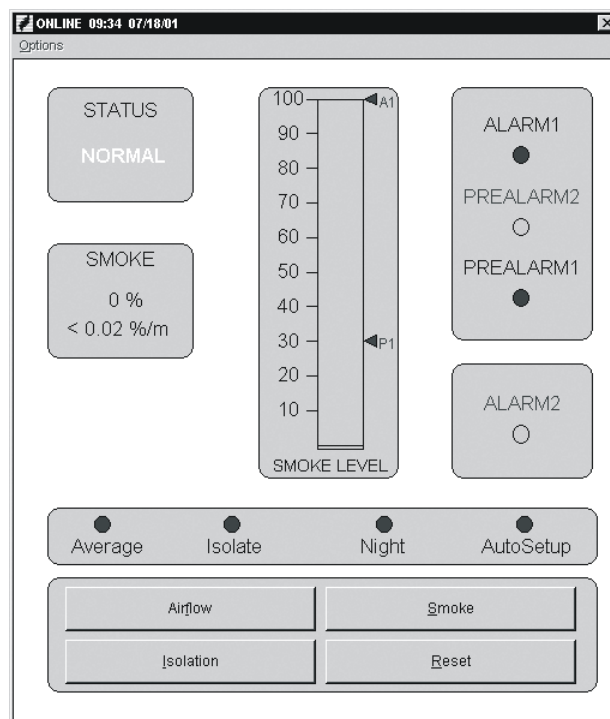
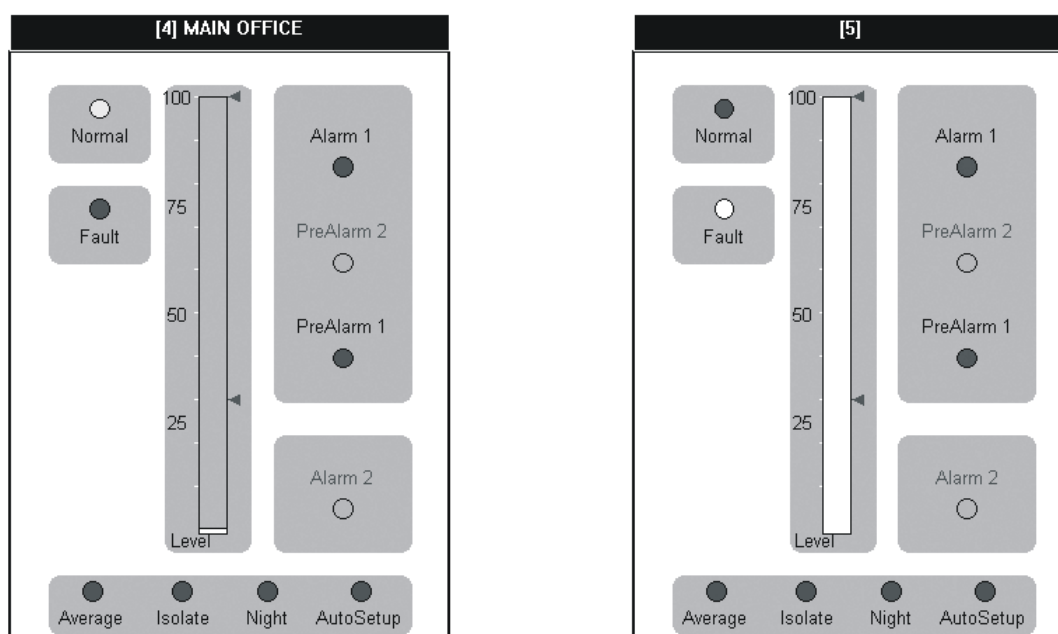
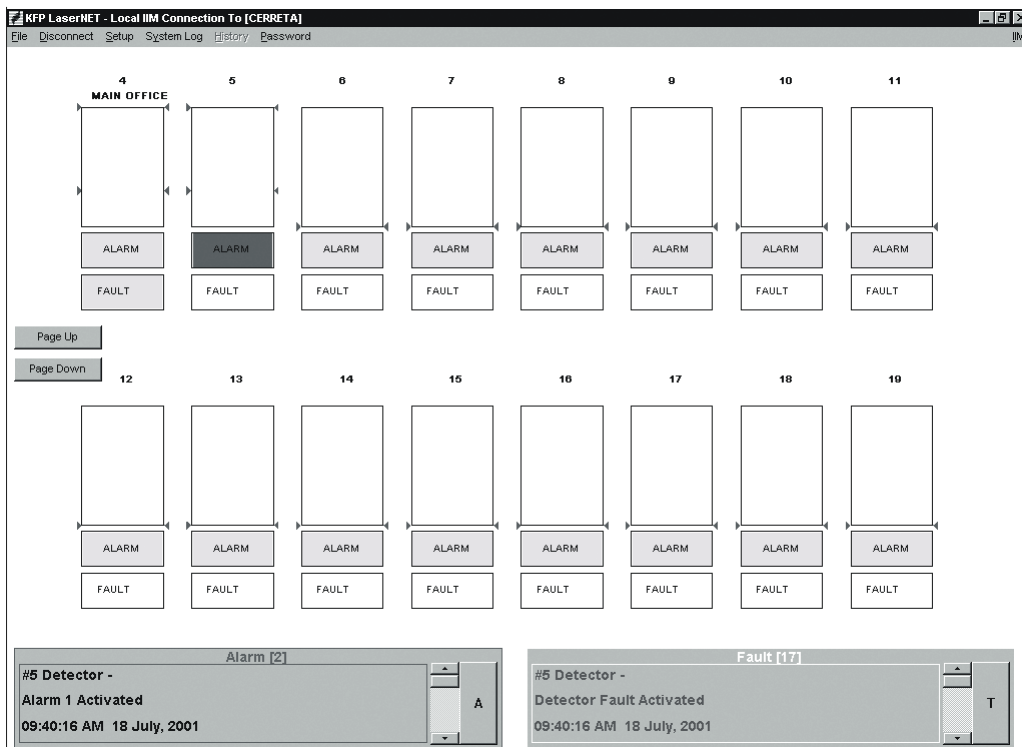

Figure 5-1. Display and Control Window for a Direct Detector Connection
Figure 5-3. Two-Zone LaserNET Display Window
Figure 5-4. Multi-Zone LaserNET Display Window
Select **Connect** from the main screen. The Display and Control window (Figure 5-1) opens displaying the graphic representation of a Detector. A warning message will appear if a connection cannot be made. If this message appears, check the system configuration and wiring and try again.
- Two to Eight Detectors:** When more than one Detector is displayed, an abbreviated graphic appears for each Detector. The owner location of each Detector is displayed at the top of each graphic. A typical two-zone system is shown in the next figure. For additional information, click on one of the Detectors. A window opens showing the display and control window of that Detector, as shown in Figure 5-1. Alarm levels are indicated by red arrows beside the bar graph for those alarms that are enabled. When you close the window with the X in the upper right-hand corner (see Figure 5-1), the screen returns to the multi-zone display shown in Figure 5-3.
- Nine to One Hundred Twenty-Seven:** Each Detector is represented by a smoke-level bar graph, alarm status box, and a trouble status box. Alarm levels are indicated by red arrows beside the bar graph for those alarms that are enabled. When more than 16 Detectors are activated, a scroll up/down button will appear on the left hand side of the Display Window allowing the user to toggle between the screens to monitor the Detectors. A multi-zone system is shown in Figure 5-4.
To obtain more information about a Detector, or change the settings, double-click on the graphic for that Detector. The screen will look like Figure 5-1. To return to the multi-zone display of Figure 5-4, click on the X in the upper right-hand corner of the screen.